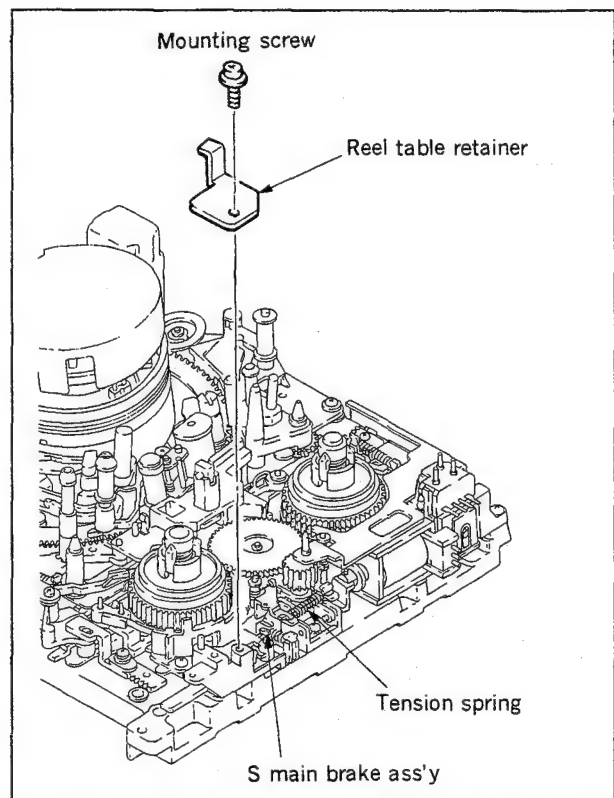

Fig. 4-14-2 Reel table retainer removal and tension spring removal
2. Reel table retainer removal (Fig. 4-14-2)
3. Tension spring removal (Fig. 4-14-2)